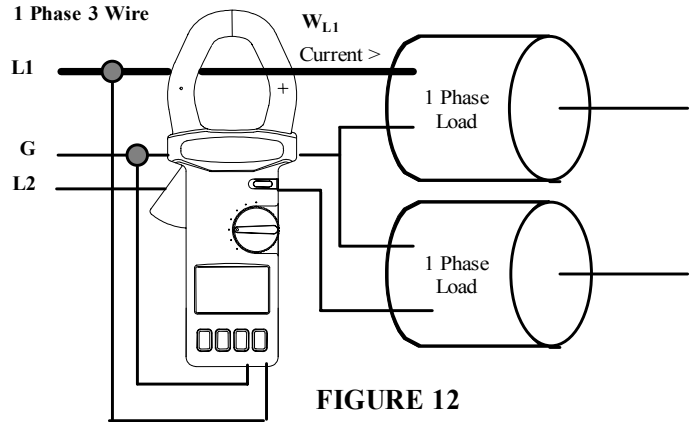

FIGURE 12
1. First, measure  $W_{RS}$  (or  $W_{L1G}$ ). See Fig.12.